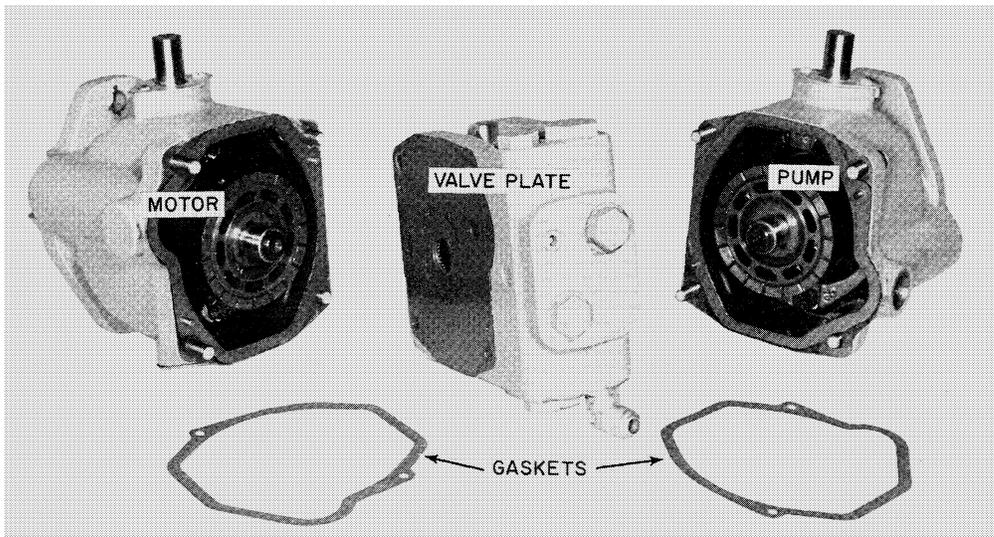

FIGURE 12
2. Having removed the bolts from the pump and motor, you now have three separate subassemblies, the piston pump, valve plate and piston motor. See Figure 12.